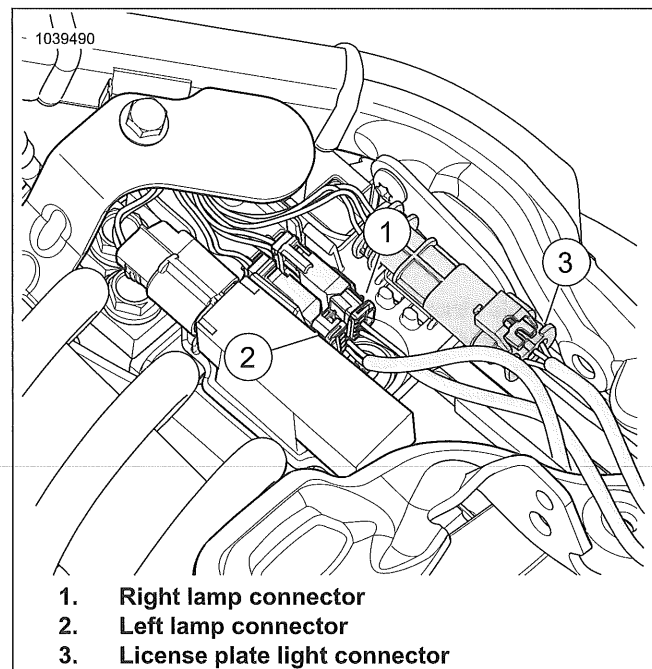
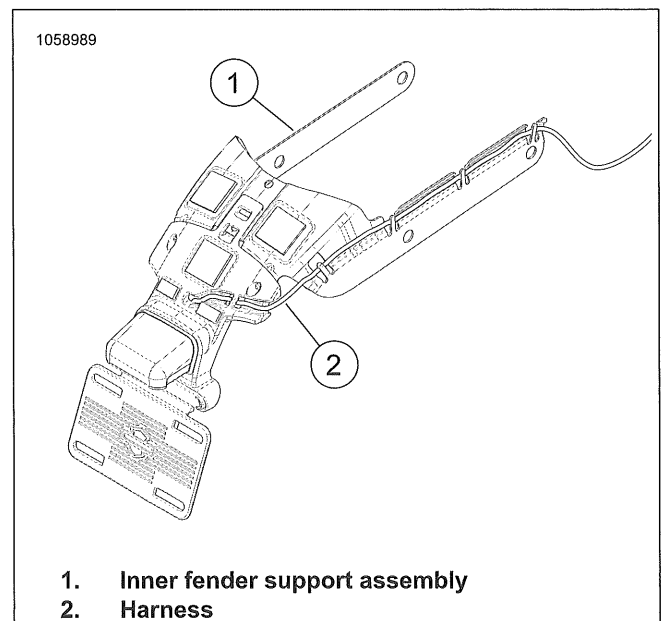

Figure 7-101. Turn Signal Lamp Connectors
Figure 7-102. Inner Fender Support Assembly (Typical)
1. See Figure 7-101. Disconnect connector (3).
2. Disconnect pins from 3-pin connector (3). See electrical diagnostic manual.
4. See Figure 7-102. Remove harness (2) from inner fender support assembly (1).
3. See Figure 7-102. Route harness (2) through inner fender support assembly (1).
5. See Figure 7-101. Connect pins to 3-pin connector (3). See electrical diagnostic manual.
6. Connect connector (3).